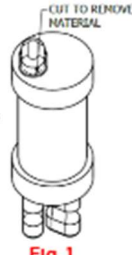

Fig. 1
4. Use the provided inserts to push the thin layer of material out away from the main body. Use a utility knife or a sharp pair of scissors to cut away the material allowing the cable to be inserted through the grommet. (Fig. 1)